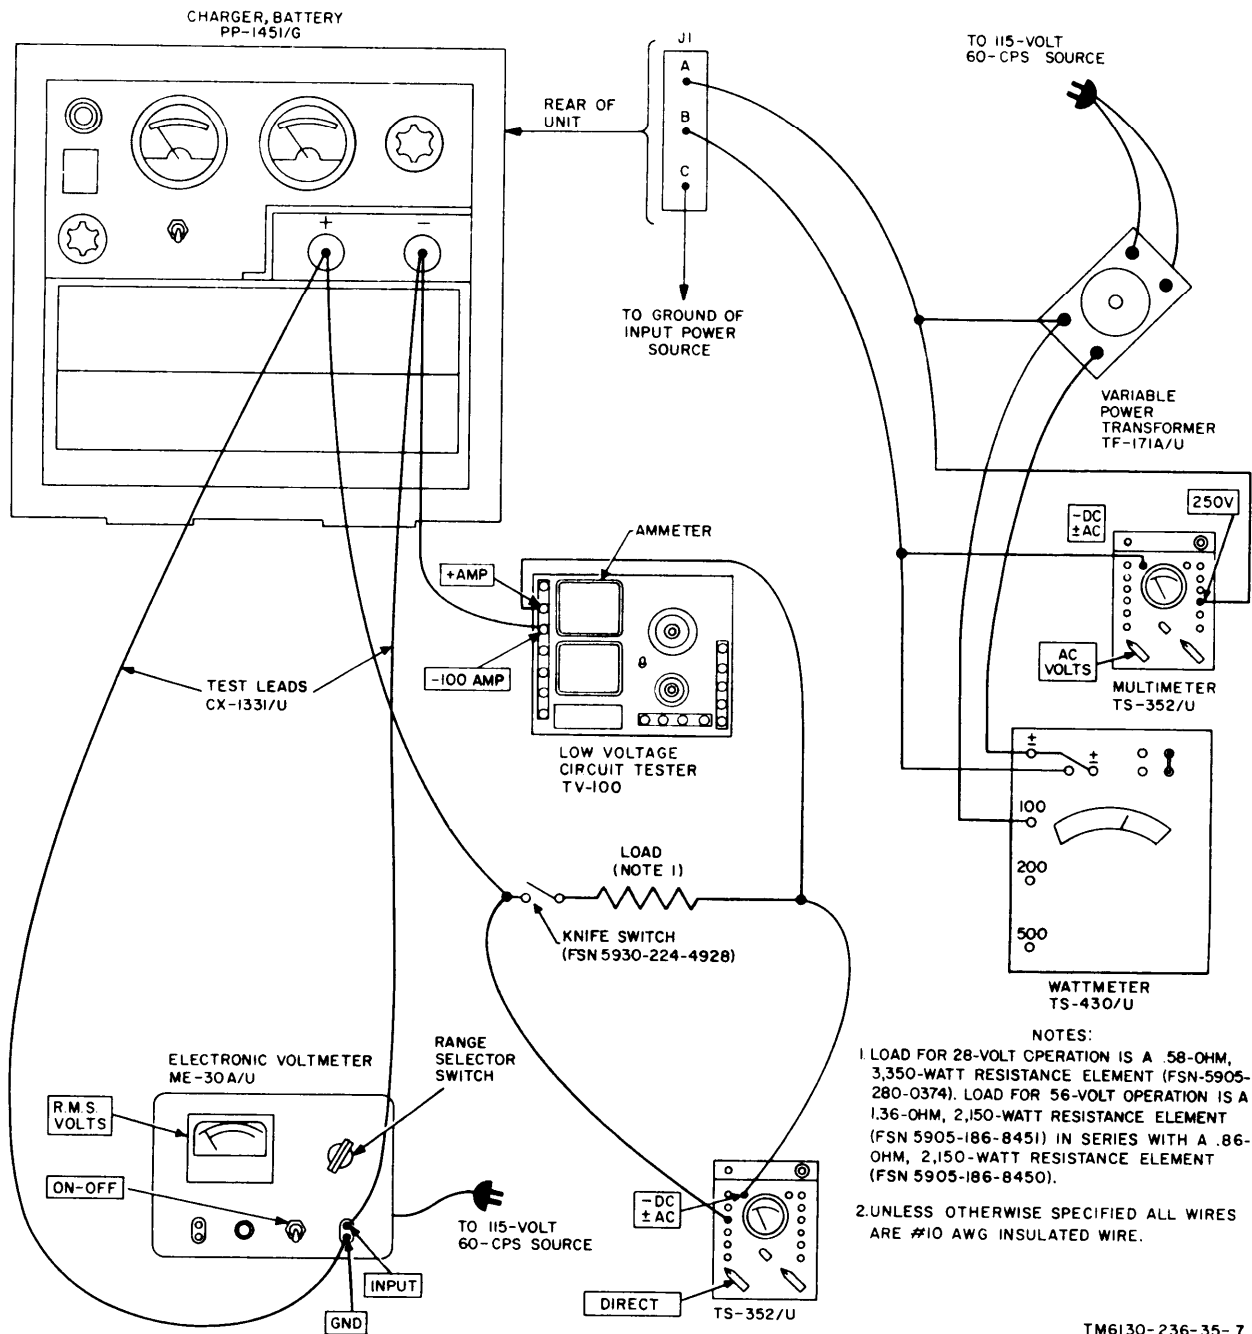

Figure 3-1. Twenty-eight Volt output, regulation, ripple, and efficiency test connection diagram.
**Procedure and Conditions.** Connect the equipment as shown in figure 3-1. Be sure that the knife switch in figure 3-1 is in the open position. This test is written for 115-volts, 60-CPS operation.